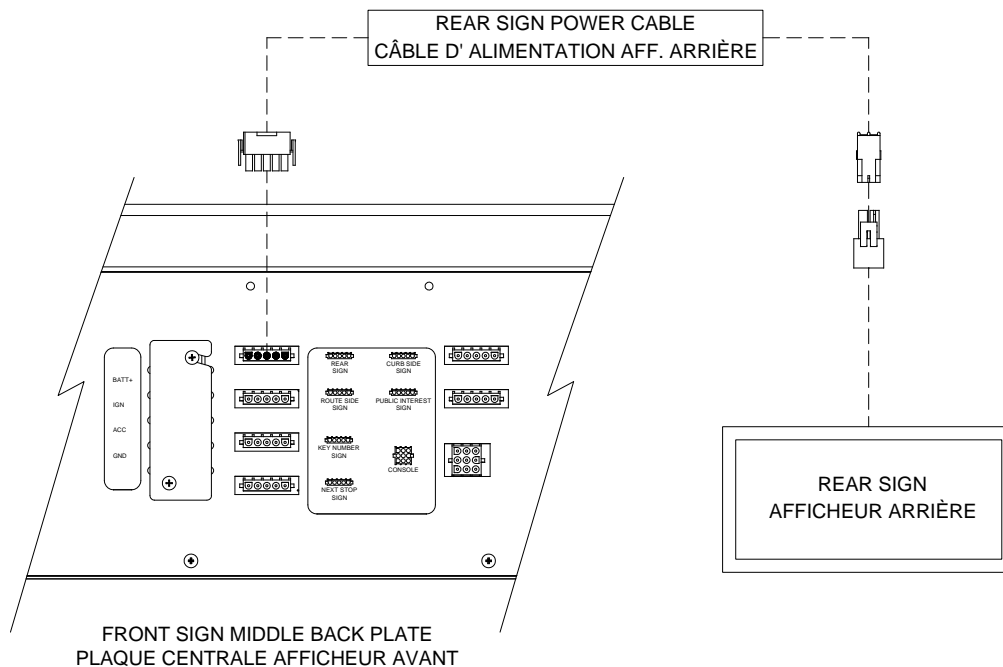

Figure 8: Rear Sign Cable Connection
- Connect one end of the power cable (6-pin connector) to the **REAR SIGN** connector (6-pin connector) located on side plate of the Front Destination Sign (See Figure 8).